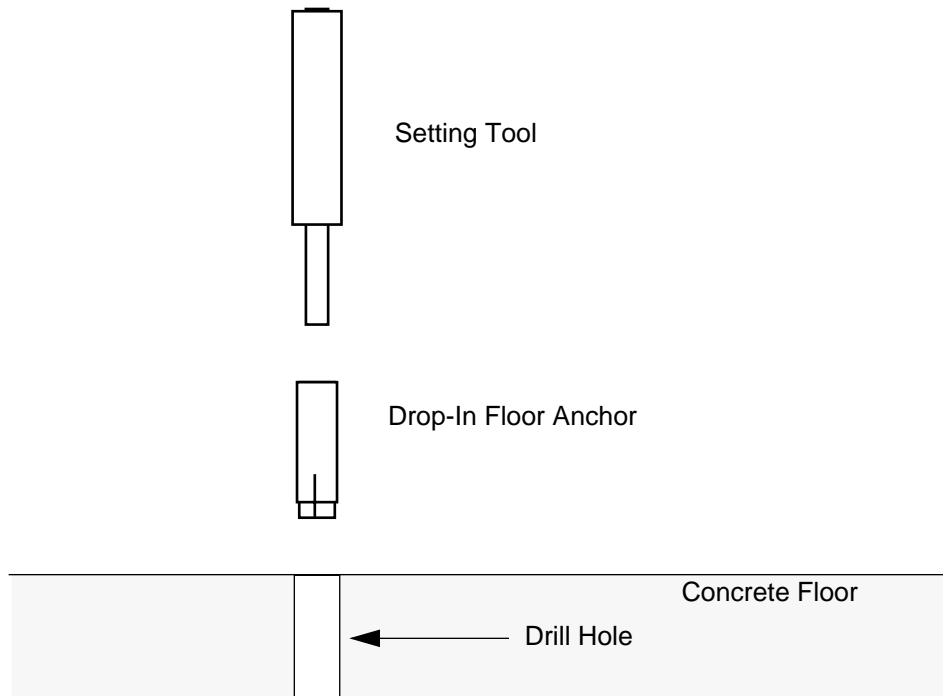

Figure 3: Installing The Drop-In Floor Anchors
4. Insert the drop-in floor anchors into the drill holes as shown in Figure 3